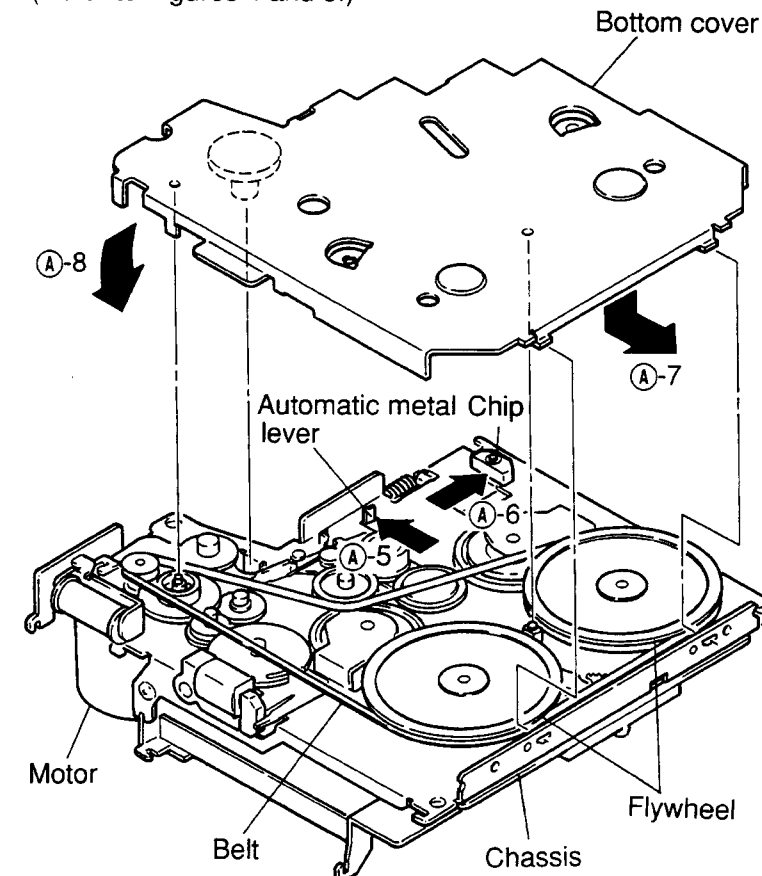

Figure 3
- (9) Turn the mechanism around as shown in Figure 3.
- (10) Pull the automatic metal lever in the direction ③-5 and the RF solenoid chip in the direction ③-6 as shown in Figure 3.
- (11) Insert the hooks of the bottom cover into the chassis in the direction ③-7, and then join the part ③-8 of the bottom cover to the chassis slowly, making sure that the 3 points indicated with the straight lines in the Figure 3 are fitted properly.
If there are troubles in mounting the bottom cover, do not apply force but remove the bottom cover once again and check the positions of the individual parts. (Refer to Figure 3.)